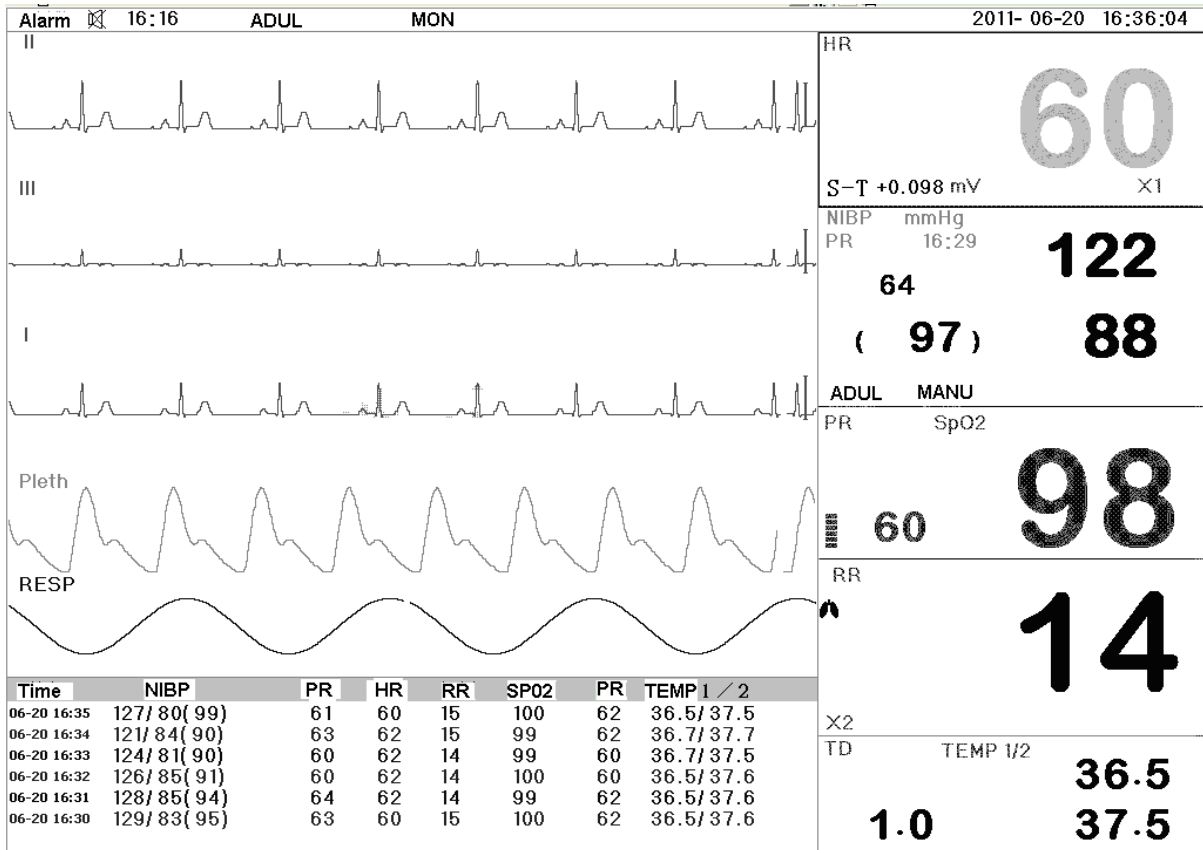

Figure 4.2 Main Screen
Step 5: If you have finished adjusting the date and time, press the knob and rotate the knob to move the cursor to “Save”, press it to save the settings. Then move the cursor to “Exit”, press it to exit the date and time setting screen, meanwhile enter into the main screen shown in Figure 4.2.
The system is initialized and enters into Main Screen where monitoring and system operation are performed. (as shown in Figure 4.2)